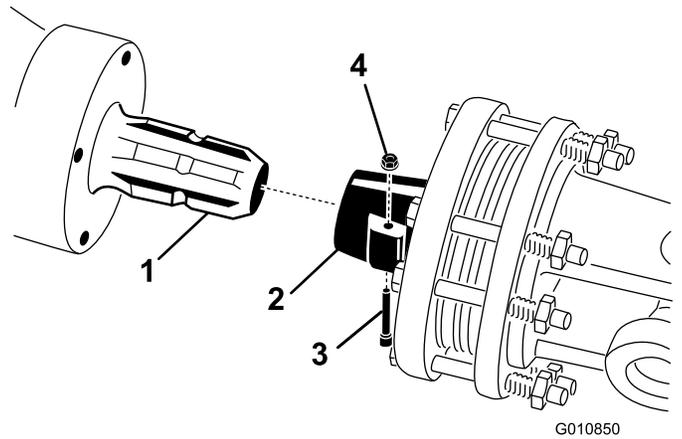

Figure 19
1. Remove the pin and nut from the PTO shaft (Figure 19).
2. Connect the clutch end of the PTO shaft to the aerator gearbox input shaft with pin and nut previously removed (Figure 19). The pin can only be inserted one way.